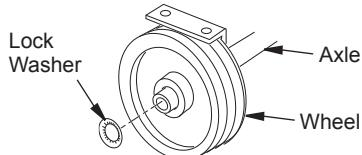

Figure 3 - Wheel/Axle Assembly for 280-IF
8. Insert the locking washer (which is in the documentation envelope) with the convex side towards the exterior of the machine; using a hammer and an appropriate-sized spanner, tap it gently to fix it into position (see Figure 3).